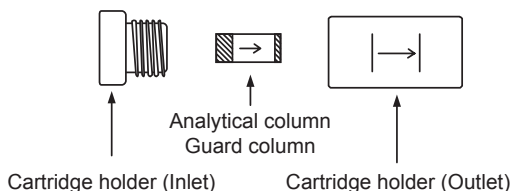

Figure 2 Column Parts
- (1) Confirm the correct product name is listed on the column label.
- (2) Each column is equipped with a union nut enabling a connection to a 1/16"O.D. capillary tubing. The union nut is designed for American standard compression plugs and ferrules.
- (3) Confirm the flow direction on the column label or etched onto the column as shown in Figure 2. Solvent should flow only into the column from the inlet side. The columns are designed so that optimal resolution is obtained when the flow direction is as indicated on the column.
- (4) Purge all air out of the tubing using the mobile phase. This helps to prevent any air from entering the column. Any air in the tubing causes serious deterioration of column efficiency.
- (5) Initially set the solvent flow rate at one-half of the intended flow rate. Make sure that the solvent is flowing freely out of the end of the tubing from the injector.
- (6) Remove the end plugs from the column and connect the inlet of the column to the tubing from the injector. Make sure that the tubing is fully inserted into the compression fittings before tightening in order to minimize dead volume. Always keep dead volume to the absolute minimum throughout the entire system.
- (7) After the solvent flows from the outlet of the column, connect the column to the detector.
- (8) Start pumping the solvent at a flow rate less than one-half of the final flow rate. Avoid a sudden pressure surge to the column.
- (9) The columns are very sensitive to pressure pulsing. A pulseless pumping system should be used.
- (10) The columns should be equilibrated before use by allowing at least 10 column volumes of solvent to pass through the column.
- (11) The product name is not marked on the guard column and the analytical column (2.0 mm(I.D.)×1 cm(L)). Please make sure the product name on the package label. It has Part No. or some lines on the body (TSKgel ODS-100V 3 μ m: 2 lines).